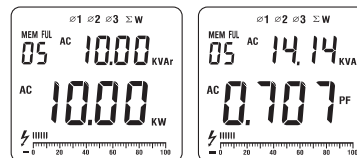

Figure 15
- Press **MAX/▲** or **MIN/▼** as figure 15 to step through in sequence three phase sum of active power+three phase sum of reactive power, and three phase sum of power factor + 3 phase sum of apparent power.